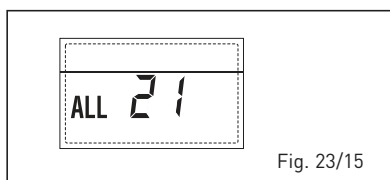

Fig. 23/15
– **INTERVENTO TERMOSTATO SICUREZZA SECONDA ZONA MISCELATA “ALL 22”** (fig. 23/16)